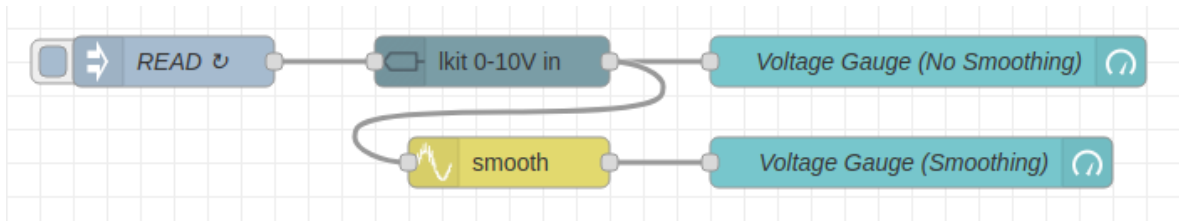

Figure 7-48: Comparison Flow
**Voltage Puzzle # 11 - Charting** – You can use the Smooth node for charting. Try it! Modify the flow of Figure 7-48 to include a chart. Try different values of smoothing and rounding.